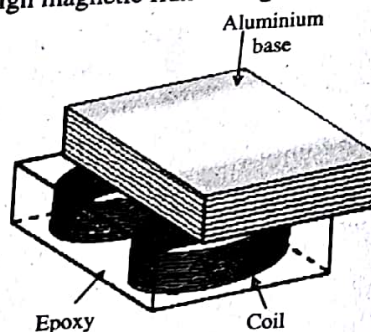

Figure 6.6
- 4) **Slotless-Ironless Flat Motors:** The slotless-ironless flat motor consists of a series of coils mounted to an aluminium base. Due to the lack of iron in the forcer, the motor has no attractive force or cogging, which helps with bearing life in certain applications. Forcers can be mounted from the top or sides to suit most applications. Ideal for smooth velocity control such as scanning applications, this type of design yields the lowest force output of flat-track designs. Generally, flat magnet tracks have high magnetic flux leakage. Figure 6.6 shows that slotless-Ironless flat motors.